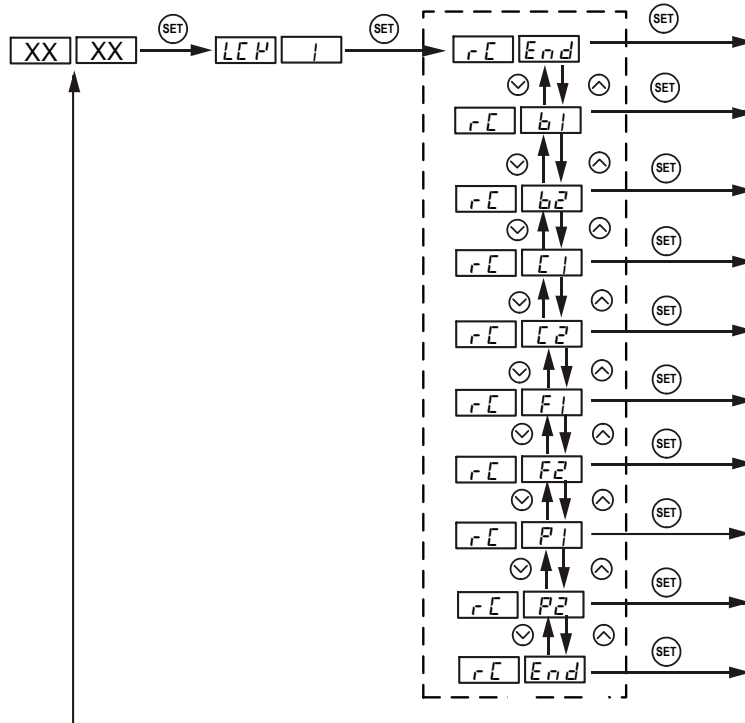

Figure 11. Flow chart of recalling a recipe.
**WARNING:** Your current program will be overwritten by the selected recipe. Please write it down somewhere if it is important to you. To recall a recipe, press and hold SET key for 2 seconds until the left window shows “LCK” and then release the SET key. The right window will show “0”. Use “+” key to adjust the number to “1” and then press SET. Then “rC” (recall) will be shown on the left window and “End” on right window. This can prevent your current program being accidentally overwritten by a recalled program. Use “+” or “-” key to locate recipe you want to recall. If you press “+” key repeatedly, you will see “End”, “b1”, “b2”, “C1”, “C2”, “F1”, “F2”, “P1”, and “P2” one by one. After you locate the recipe that you want to recall, press the SET key to select. Current program will be overwritten by the selected program. Figure 11 shows the flow chart of how to recall a recipe.